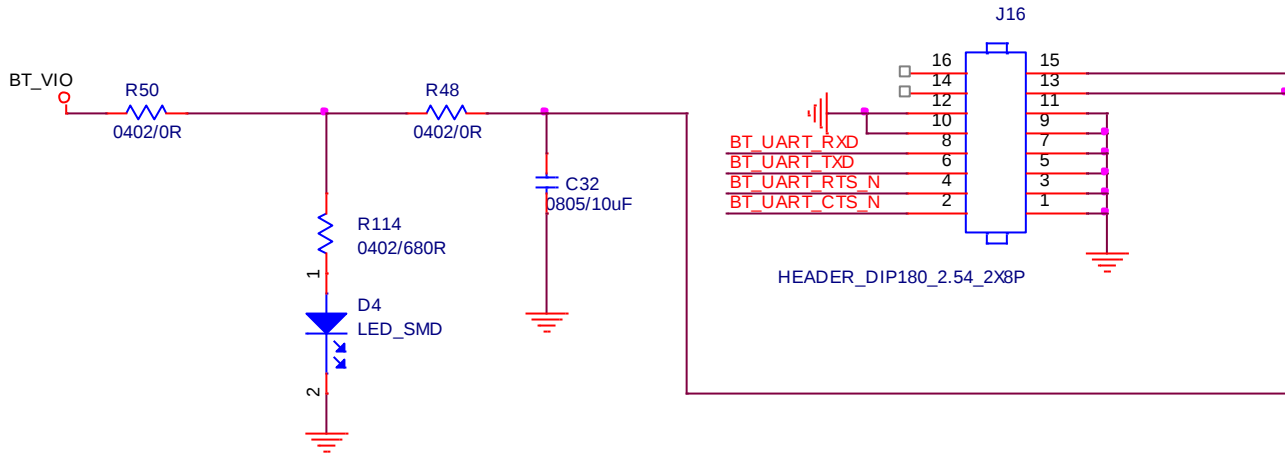

Figure4. Bluetooth verification connection interface to Host UART
- ❖ Refer to Figure4 UART pin definition connects the J16 interface of AP6676P/PR3 evaluation board to Host UART control interface.